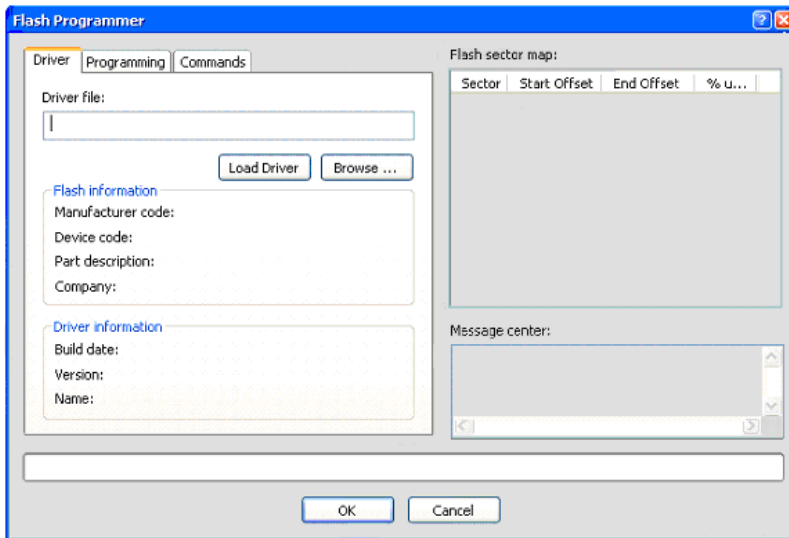

Figure 3-7. Flash Programmer Dialog Box – Driver Tab
1. Select **Flash Programmer** from the **Tools** menu. The Flash Programmer dialog box (Figure 3-7) appears on the screen.